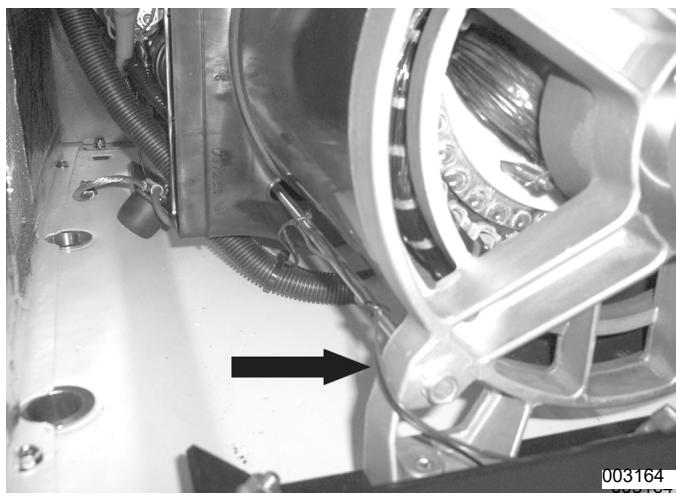

Figure 4-52.
- 20. Remove Brush Wires:** See Figure 4-52. Use a side cutters to remove the tie wraps securing the brush wires to the outside of stator.